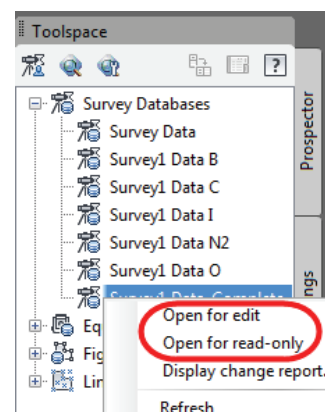

Figure 2–3
2. Select the survey database that you want to open, right-click and select **Open for edit** or **Open for read-only**, depending your requirements, as shown in Figure 2–3.